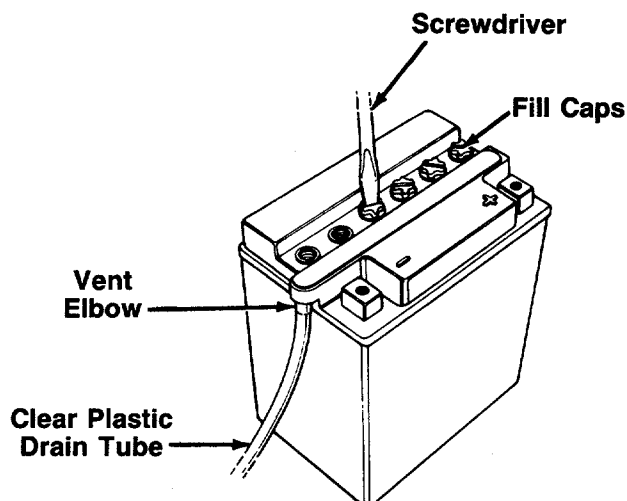

FIGURE 10.
3. Remove the six fill caps from the top of the battery with a screwdriver. Be careful not to damage the fill caps. See figure 10.